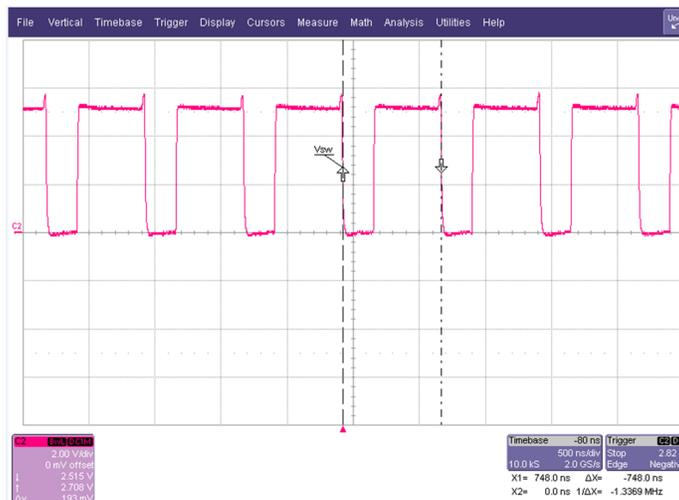

Figure 9. Boost Mode Ripple and Duty Cycle; VBAT = 3.7 V
11. Verify PMID to GND on J1 is between 4.9 V and 5.3 V (See Figure 9).